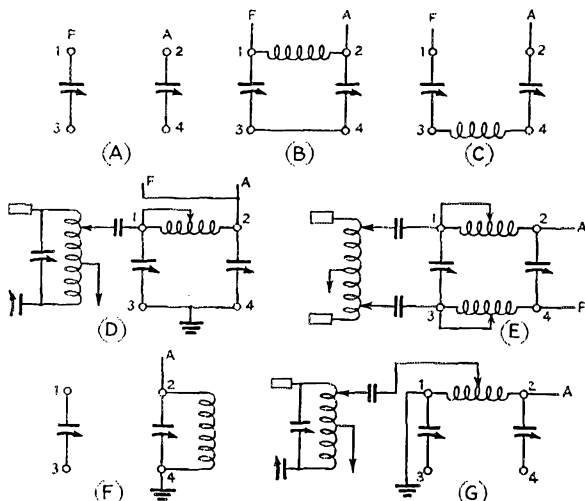

FIG. 1—UNIVERSAL ANTENNA-COUPLING ARRANGEMENT
After a little thought the system shown in Fig. 1, which I have christened a "universal antenna coupler," was devised. Four standoff insulators
with banana plug sockets in their ends are mounted in the form of a square about 5 inches on a side (the spacing of these coils is determined by the length of the coils), and connected as in Fig. 1 (A) with two variable condensers between Nos. 1 and 3 and Nos. 2 and 4 insulators. For the sake of convenience the feeders are marked A and F, A being the one attached to the antenna and F the dead-end feeder. By plugging a coil in sockets 1 and 2 and a shorting bar in sockets 3 and 4 the feeders are parallel tuned, as in (B).